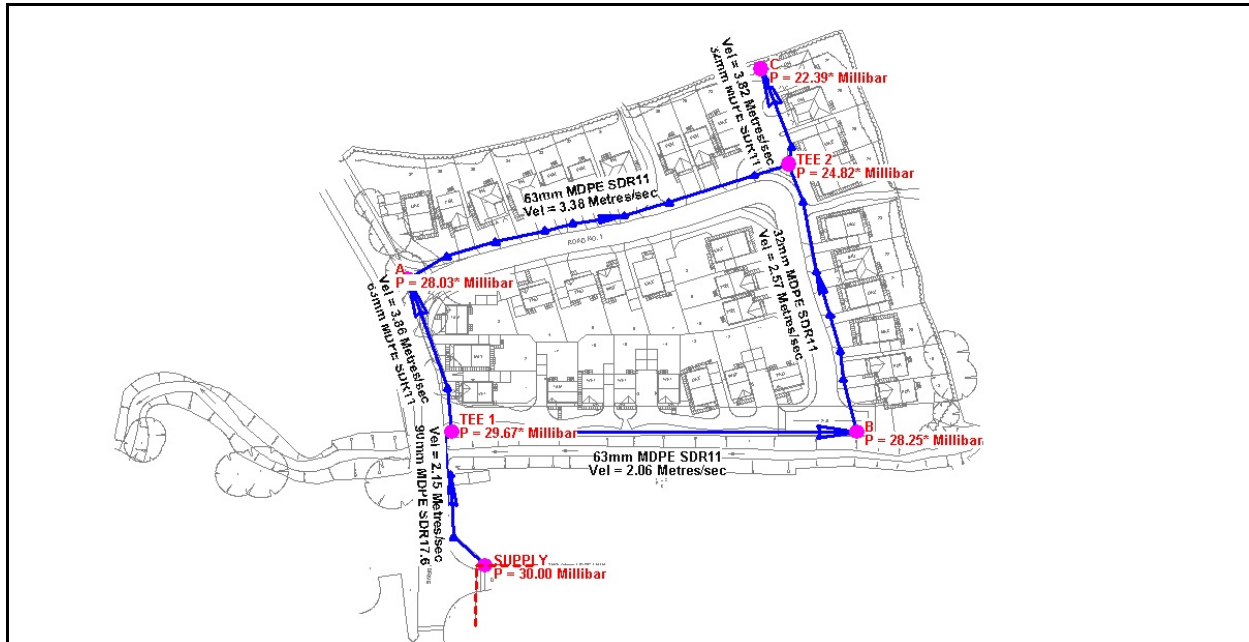

Figure 6
The pressure values, flow directions, and pipe sizes should be similar to those shown in Figure 6.
- As a result of the "hand drawn" pipe segments, each example model is created slightly different. Therefore the results will be slightly different for each model. The results, however, should be similar to those shown in Figure 6.